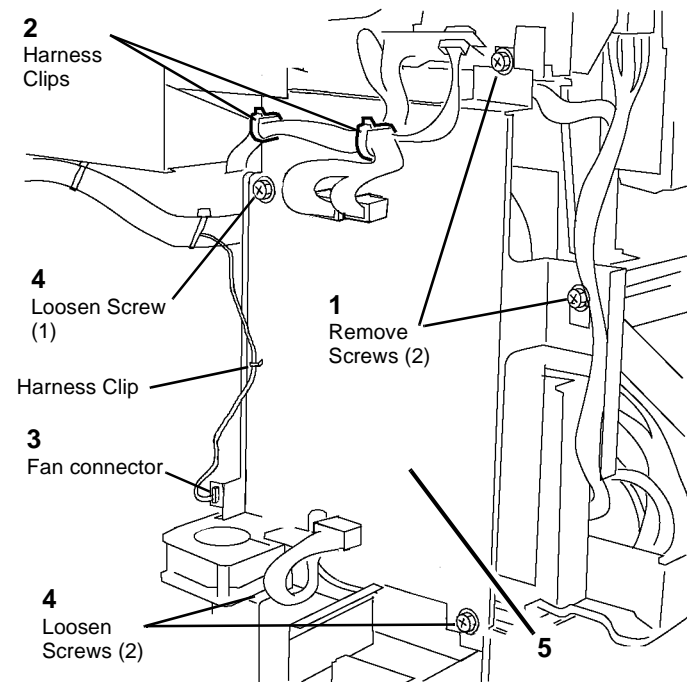

Figure 1 Removing the +24 V LVPS Bracket Assembly
4. Remove the 24 V LVPS Bracket Assembly (Figure 1).